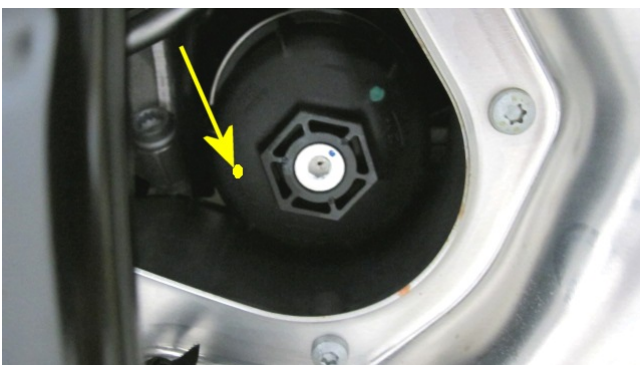

Figure 7
If the vehicle is not already listed as repaired in the "Repair history" (in Elsa Pro), check the vehicle for campaign identification which is a yellow paint mark on the oil filter cap (Figure 7) if this is not visible carry out the required work in accordance with the instructions.
- Once the oil filter is reassembled place a yellow paint mark on the oil filter cap as shown in Figure 7
4. Once the oil filter is reassembled place a yellow paint mark on the oil filter cap as (Figure 7) to confirm the by-pass valve is now fitted
Yellow paint completion mark on the oil filter cap (Figure 7)